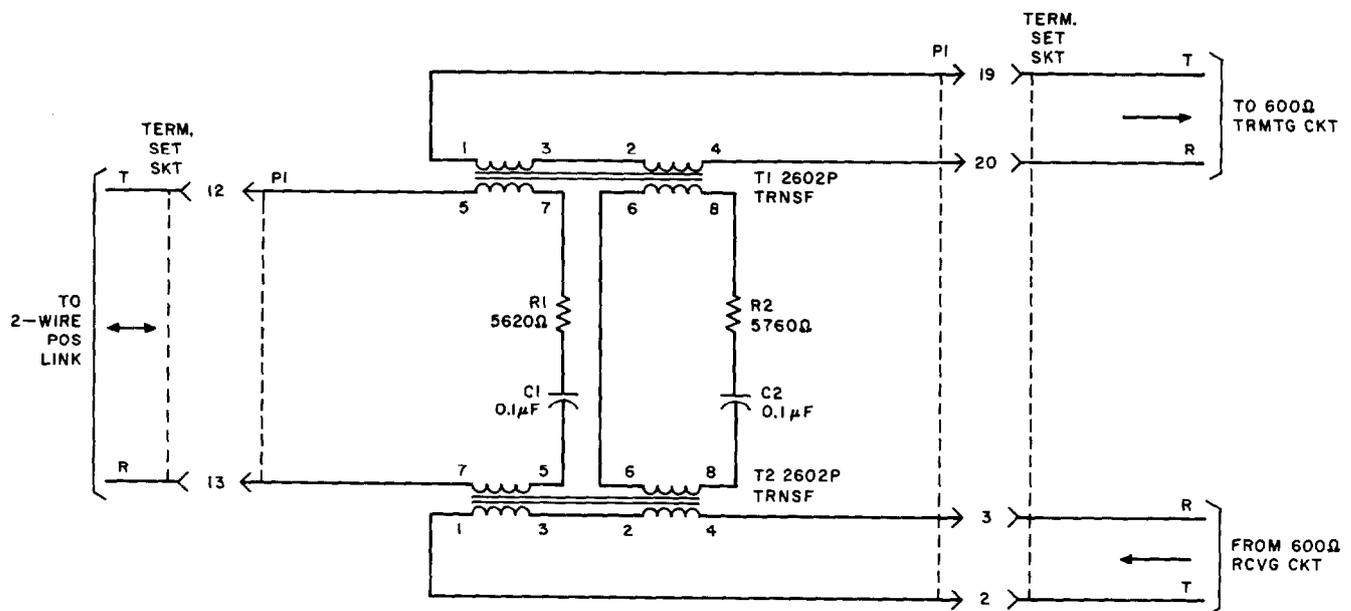

Fig. 3—1H Terminating Set—For High-Impedance Bridging on Position Link of TSPS Switching Network—Schematic
3.01 The schematic of the 1H terminating set is given in Fig. 3. The circuit consists of a 2-transformer hybrid circuit, an RC balancing network, and on the 2-wire side, a series blocking capacitor and resistive termination.